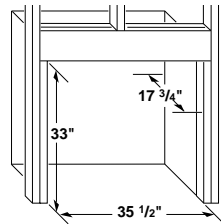
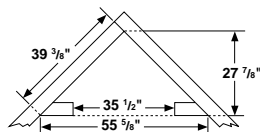

Figure 13 - Rough Opening for Installing in Wall
Figure 14 - Rough Opening for Installing in Corner
- Frame in rough opening. Use dimensions shown in Figure 13 for the rough opening. If installing in a corner, use dimensions shown in Figure 14 for the rough opening. The height is 33" which is the same as the wall opening above.